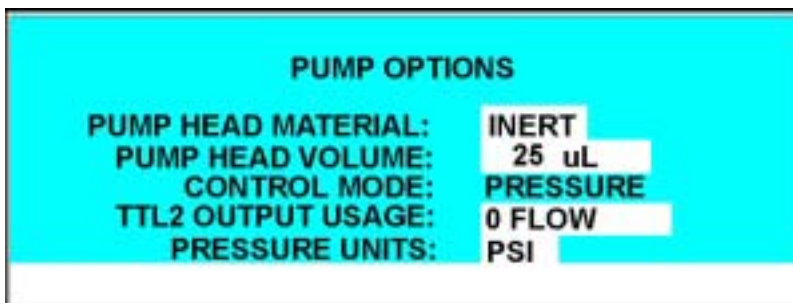

Figure 15
- B. Complete the following steps to set the **TTL-2 OUTPUT USAGE** to **0 FLOW**. See Figure 15.